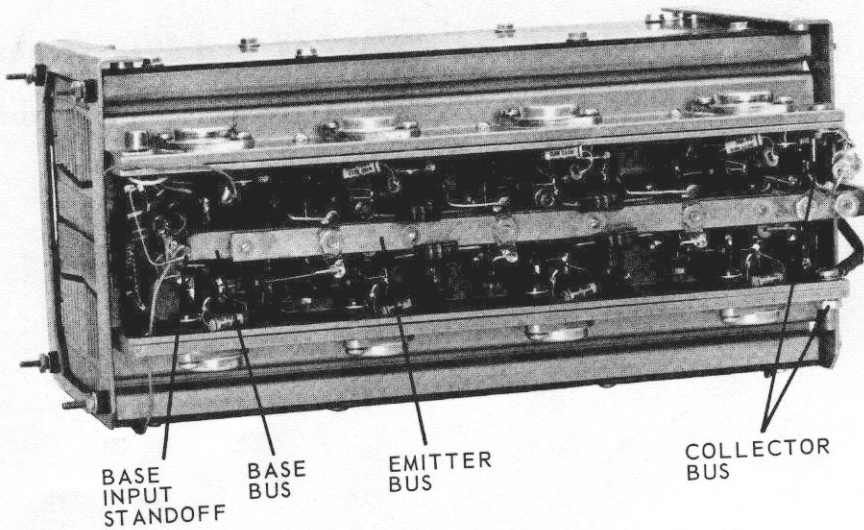

Fig. 4-3. Heatsink Assy.
d. Connect the test leads to the output assembly as illustrated in figure 4-3.